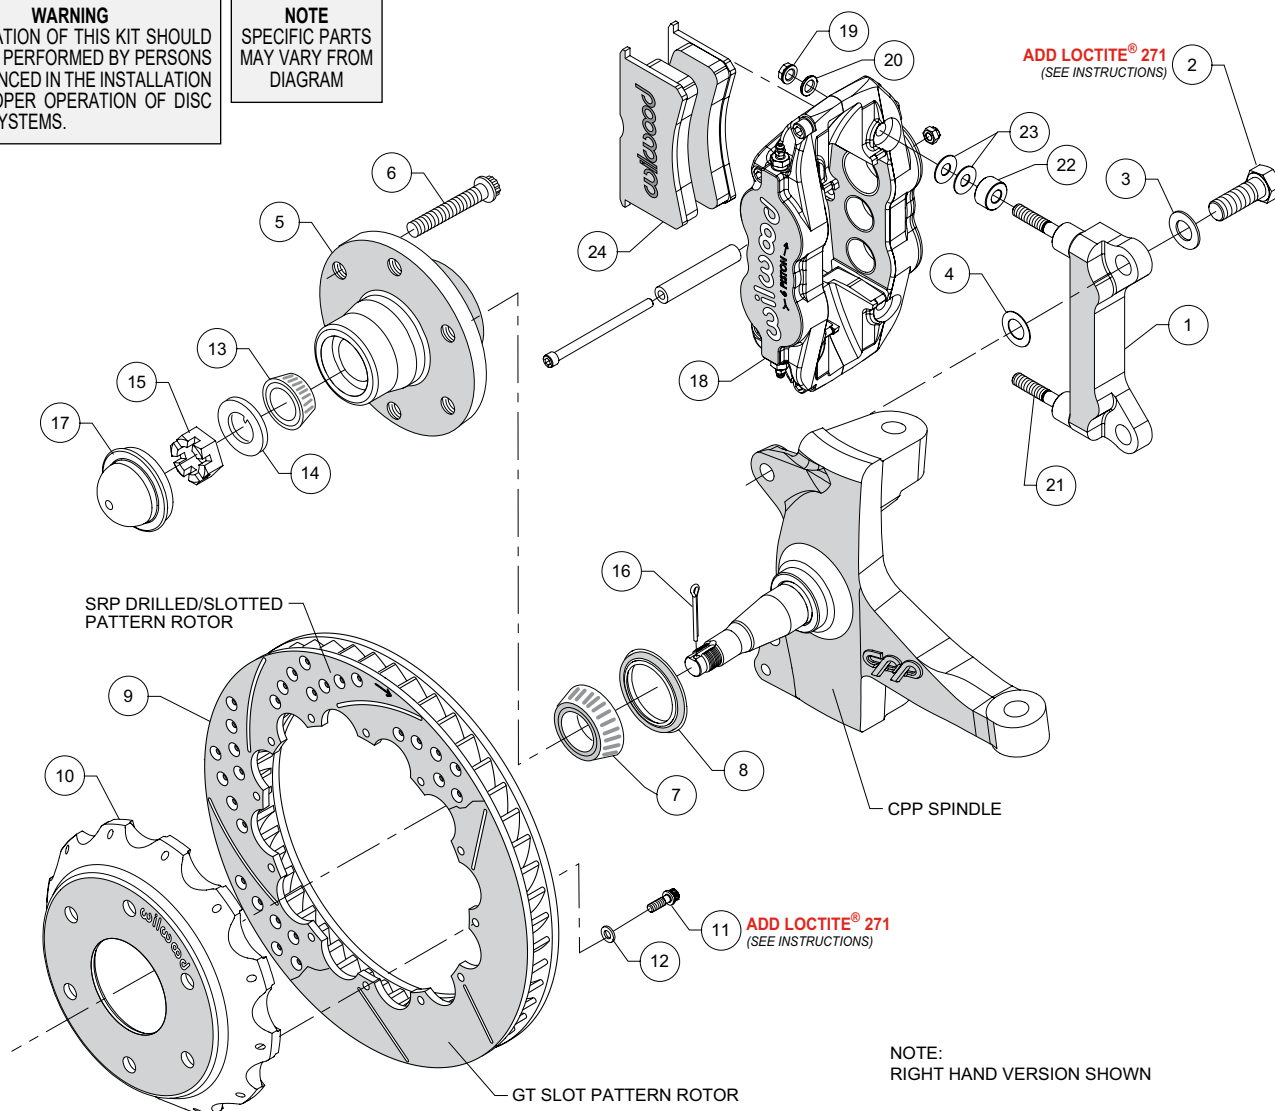
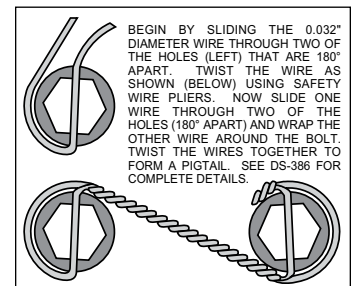

Figure 1. Typical Installation Configuration
Figure 3. Safety Wire Diagram
**NOTE:** Numbers in parenthesis refer to the parts list and Figure 1 on the preceding pages.
- The caliper mount bracket (1) should initially be installed with clean, dry threads on the mounting bolts. Orient the bracket, as shown in Figure 1, and Photo 1, and install using bolt (2) and washer (3). Initially place one .024" thick shim (4) on each bolt between the bracket and upright, Figure 1. Temporarily tighten the mounting bolts. **NOTE:** *The bracket must fit squarely against the mount bosses on the upright.* Inspect for interference from casting irregularities, machining ridges, burrs, etc. Later, after the caliper alignment has been checked, the mount bolts will be secured using red *Loctite*® 271.
- Install wheel studs (6) into the hub (5), Photo 2. Torque to 77 ft-lb.
- Pack the large inner bearing cone (7) with high temperature disc brake bearing grease (available from your local auto parts store) and install into the backside of the hub (5), Photo 3.
- Install the grease seal (8) by pressing into the backside of the hub (5), flush with the end of the hub, Photo 4.
- Orient the rotor (9) and the hat (10) as shown in Figure 1 and Photo 5. Attach rotor to hat using bolts (11) and washers (12). Apply red *Loctite*® 271 to the bolt threads and torque to 155 **in-lb** using a criss-cross pattern. For an added measure of security, the bolts may be safety wired using standard 0.032 inch diameter stainless steel safety wire as shown in Figure 3. Refer to Wilwood's data sheet DS-386 (available at [www.wilwood.com/Pdf/DataSheets/ds386.pdf](http://www.wilwood.com/Pdf/DataSheets/ds386.pdf)) for complete safety wire installation instructions.
- Pack the small outer bearing cone (13) with high temperature disc brake bearing grease and install into hub (5). Slide the hub assembly onto the spindle. Secure using spindle washer (14) and spindle nut (15), Photo 6. Adjust bearings per OEM specifications. Install a new cotter pin (16).
- Press the dust cap (17) into the hub (5). **NOTE:** *Do not hammer center of cap. Install using outer flange only.*
•Slide the hat/rotor assembly (10/9) onto the hub (5), Photo 7. **NOTE:** The hat must fit flush against the hub face or excessive rotor run out may result. Install three lug nuts (finger tight) to keep the hat/rotor assembly in place while continuing with the installation.
•**NOTE:** This kit contains distinct right and left hand calipers that must be mounted in a specific direction, as described below. Initially place one spacer (22) and two .035" thick shims (23) on each stud (21) between the caliper and the bracket, as shown in Figure 1 and Photo 8. Mount the caliper (18) onto the bracket (1) using lock nuts (19) and washers (20), Figure 1. Ensure that the caliper is mounted so the largest pistons are at the rotor exit end of the caliper, in relation to the direction of rotor rotation. Temporarily tighten the lock nuts and view the rotor through the top opening of the caliper. The rotor should be centered in the caliper, Photo 9. If not, adjust by adding or subtracting shims (4) between the bracket and the upright. Always use the same amount of shims on each of the two mounting bolts. Once the caliper alignment is correct, remove the bracket mounting bolts (2) one at a time, apply red *Loctite*® 271 to the threads, and torque to 140 ft-lbs.
•Remove the caliper center bridge pad retainer bolt, nut, and tube from the caliper. Insert the brake pads (24) into the caliper, with the friction material facing the rotor, as shown in Photo 10. Check that the top of the brake pad is flush with the outside diameter of the rotor, Photo 11. If not, adjust by adding or subtracting shims (23) between the caliper and the spacer. After the caliper pad height is set, torque the caliper lock nuts (19) to 30 ft-lb. Secure the brake pads in place with the center bridge pad retainer tube, bolt, and locknut, Photo 12. The locknut should be snug without play in the bolt or tube. Be cautious not to over tighten.